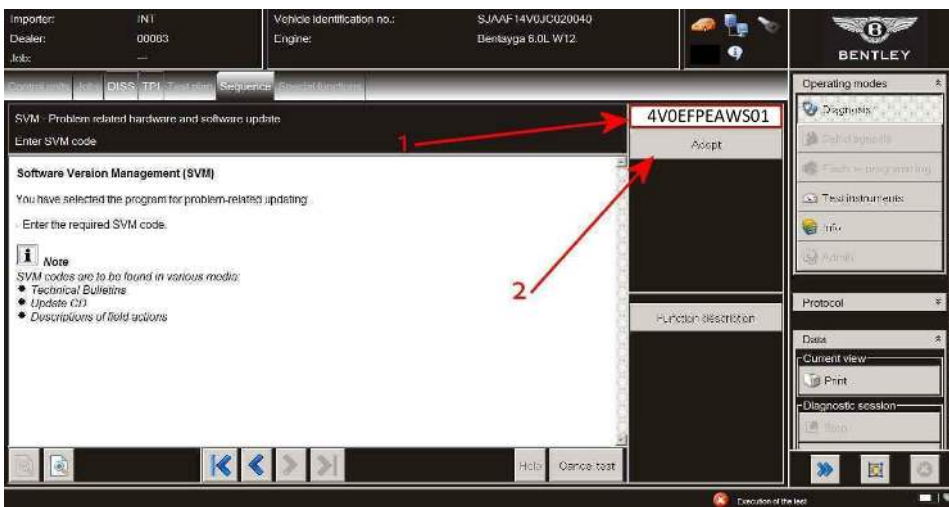

Figure 3
5) Referring to Figure 3 – At the SVM screen (1) enter the specific SVM code 4V0EFPEAWS01 and then select Adopt (2)